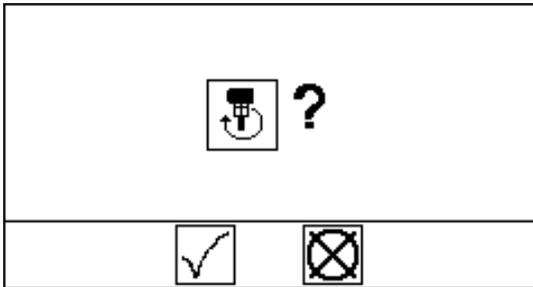

FIG. 16: Enter Recirculate Mode
- Select  to confirm or select  to cancel. See FIG. 16.